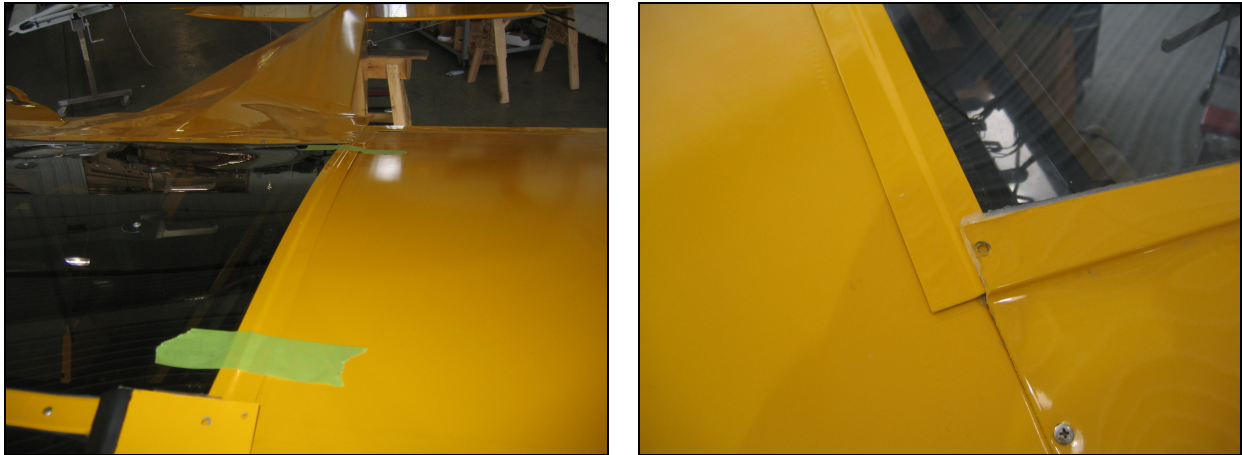

Figure 2 – Retaining Strip Location
3. Tape Retaining Strip in place, pushing inboard. Slide Strip under leading edge fairing and turtledeck flange. Align aft edge of strip with the turtledeck flange. See Figure 2.